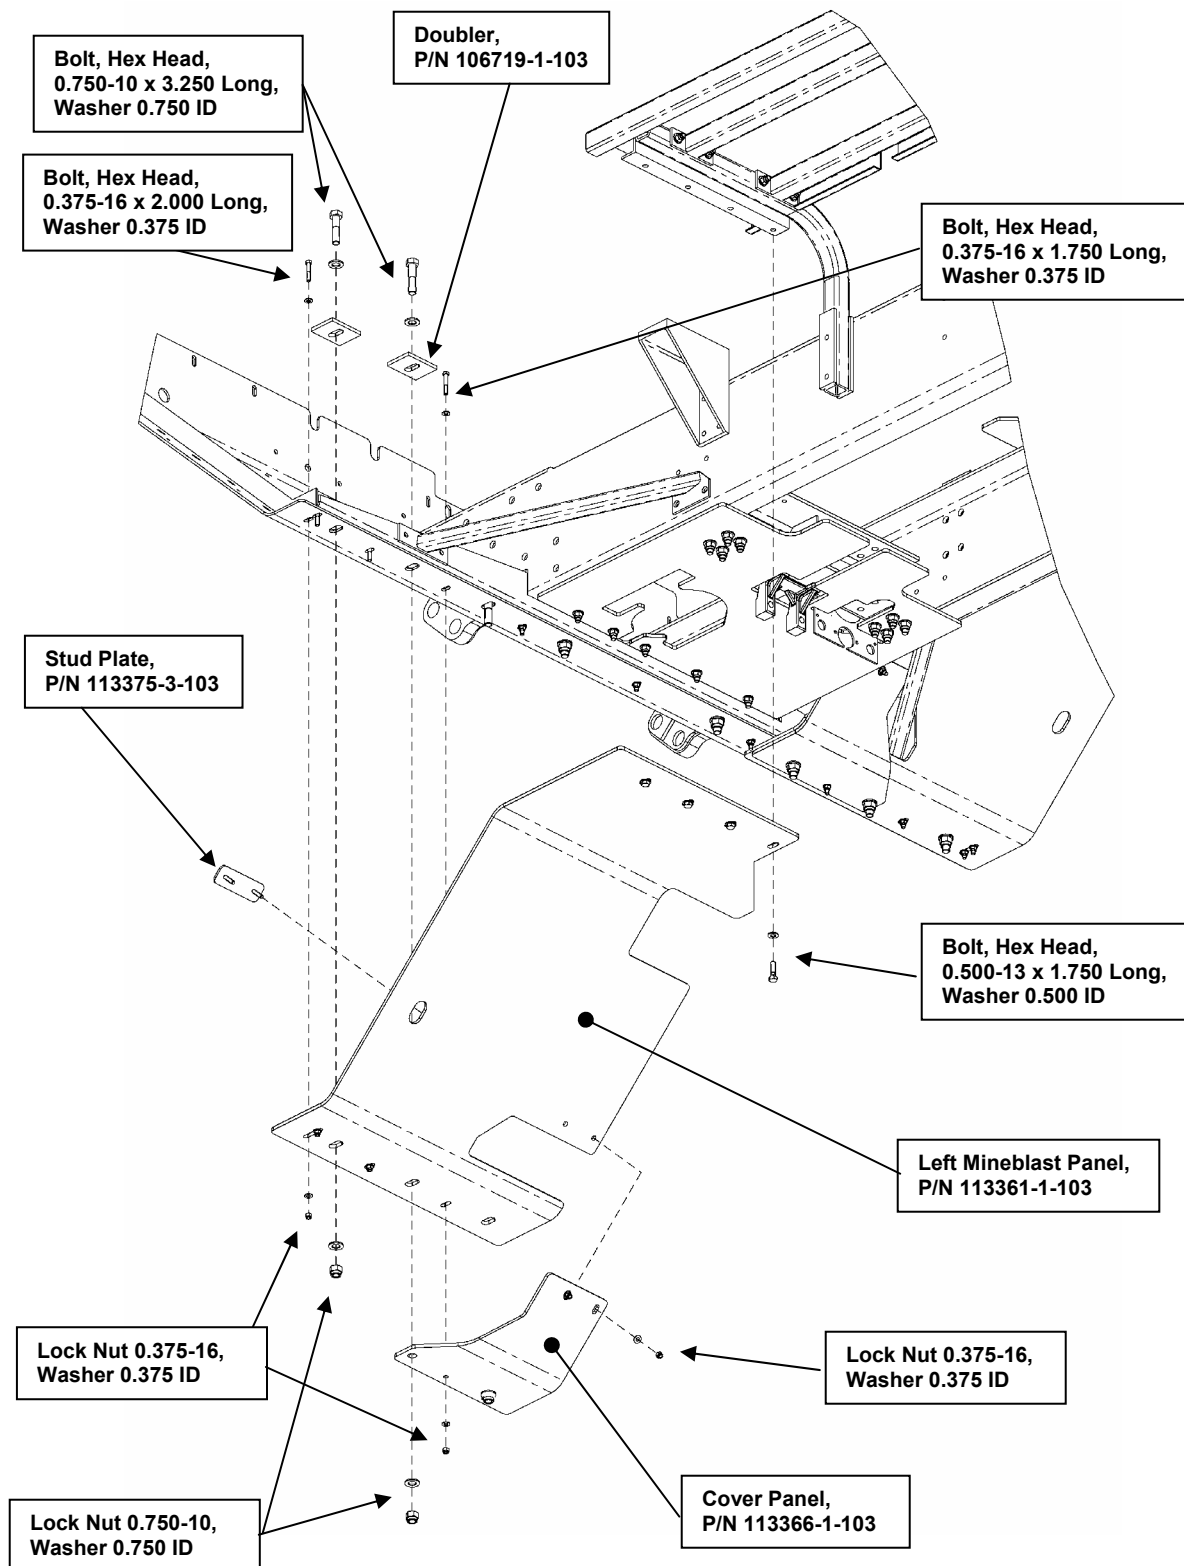

Figure 65. Underbody Armor, Left Side, installation.
- m) Place three Doublers (P/N 106719-1-103) in the Frame Channel over the three large holes that receive 0.750-in. bolts (see Figure 65).
- n) Using material handling equipment (hoist, forklift, etc.), orient the Left Mineblast Panel (P/N 113361-1-103) into the installed position and install the 0.500-13 X 1.750-in.-long bolts into the Left Mineblast Bracket (P/N 113364-1-103). Install one (1) 0.750-10 X 3.250-in.-long bolt into the outermost hole, as shown in Figure 65.
- o) Place the Stud Plate (P/N 113375-3-103) into the holes of the Left Mineblast Panel, as shown in Figure 65.
- p) Install the Cover Panel (P/N 113366-1-103) and the Cab Step using the hardware shown in Figure 65.
- q) Install the remaining hardware shown in Figure 65.